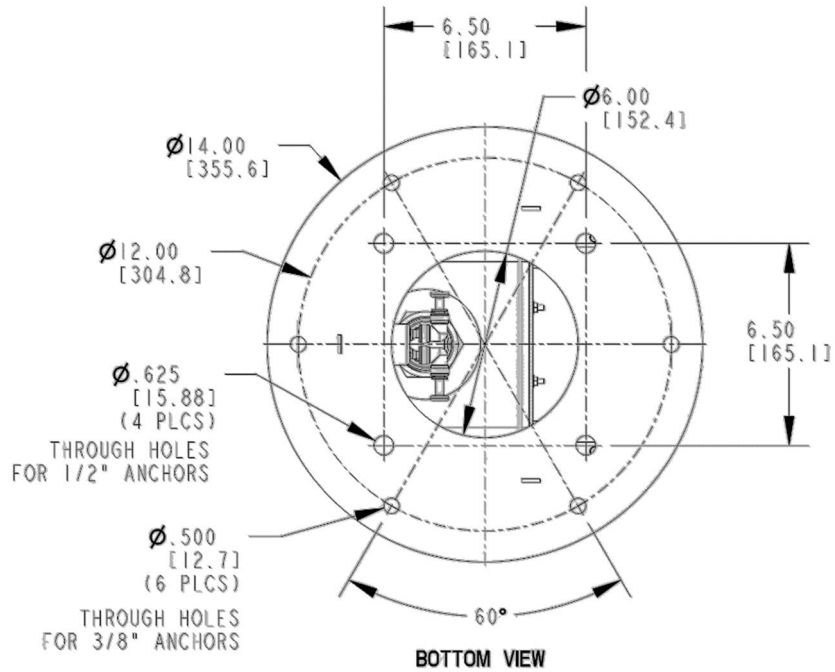

Fig. 3 – Bottom view
6. Install whole unit to the ground using 3/8" (6 places) or 1/2" anchors (4 places). See Fig.3 for reference. Anchors are not included. This bottle filler is to be mounted on a smooth, flat, finished surface with adequate support structure. Oasis can provide optional anchor assembly that can be delivered together with the unit. For easy access to the filter (optional) place unit at least 120 mm away from the wall.